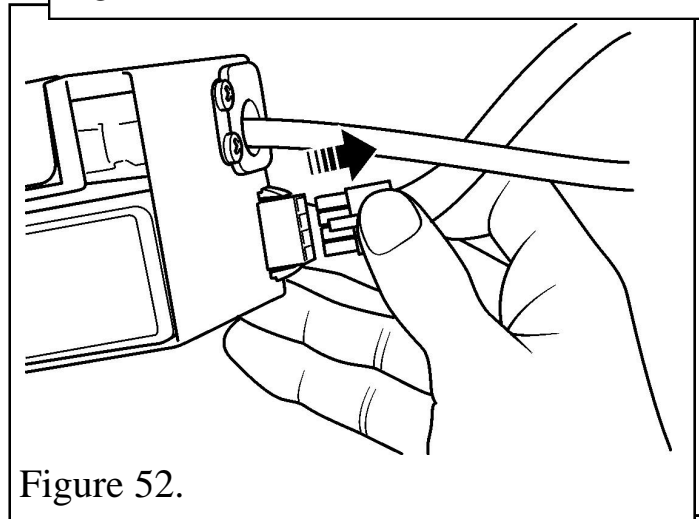

Figure 52.
3. Detach the fan wiring loom connection (See figure 52).